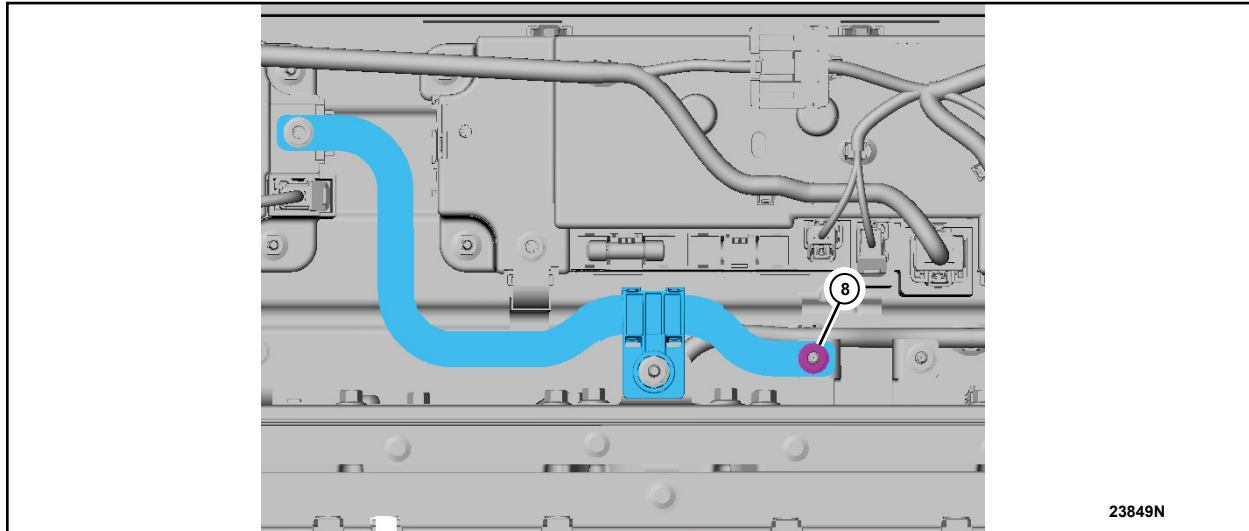

FIGURE 13
28. Check the residual torque-to-tighten on the bolt in Figure 13. Record the data.